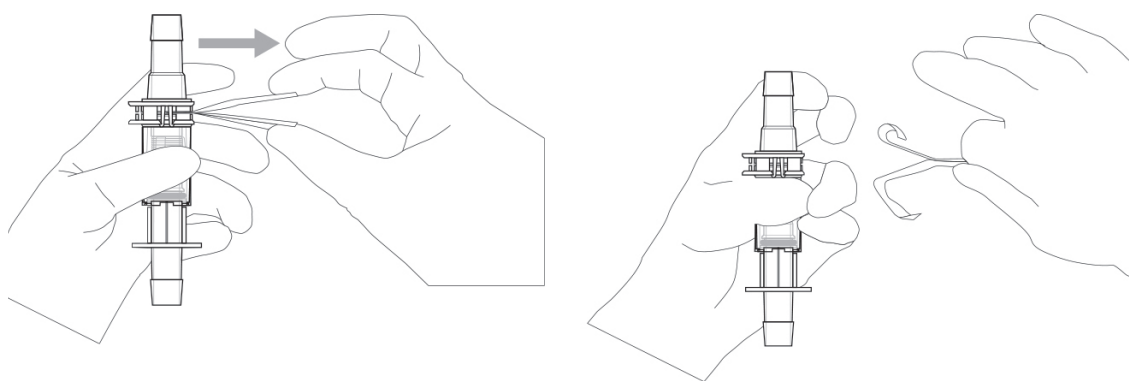

Figure 5.40. Removing the peel-away strips from the connector.
5. With one hand, support the male and female sides of the Kleenpak connector by wrapping your fingers around both sides of the connector, next to the flange. Using your other hand, grasp both of the peel-away strips as close as possible to the flat side of the connector to ensure a good grip, and pull them out together in one continuous motion. Ensure that the connector is perpendicular to the peel-away strips shown in Figure 5.40. The perpendicular orientation must be maintained while the two strips are pulled simultaneously. Do not use if only one of the peel-away strips is removed instead of both.